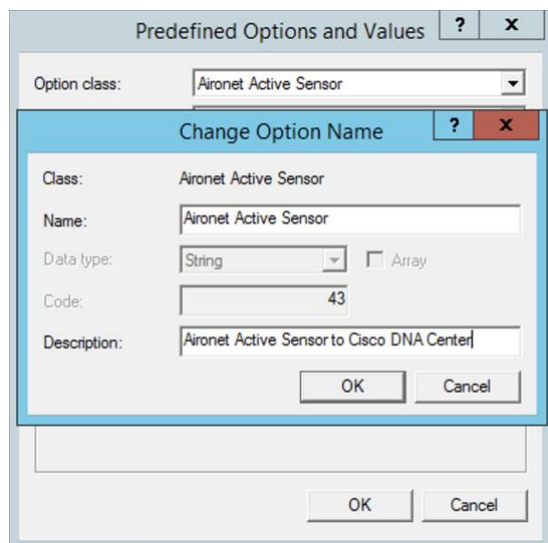

Figure 26.
5. A **Change Option Name** dialog box will appear; enter the following and click **OK (Figure 26.)**